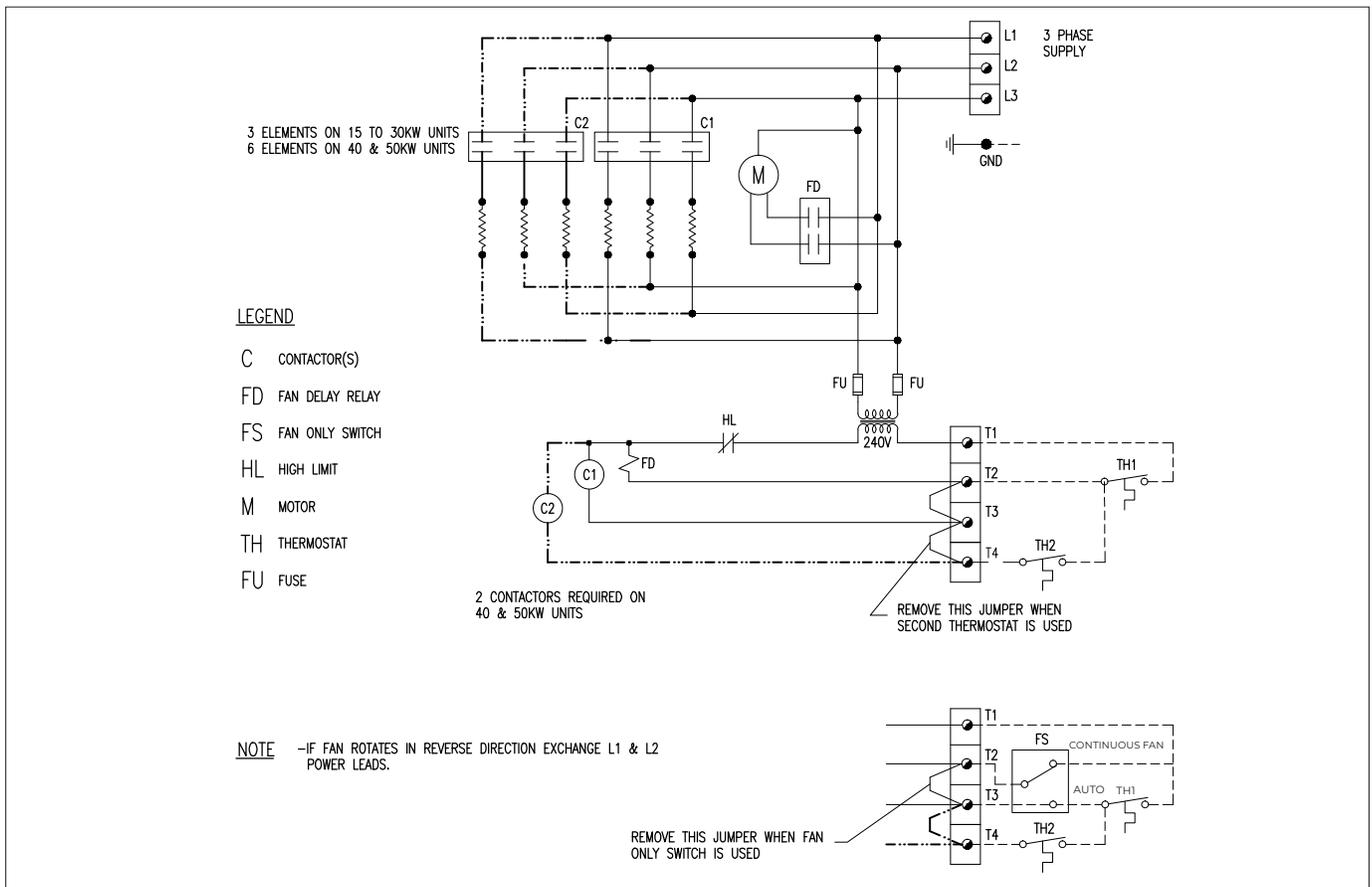
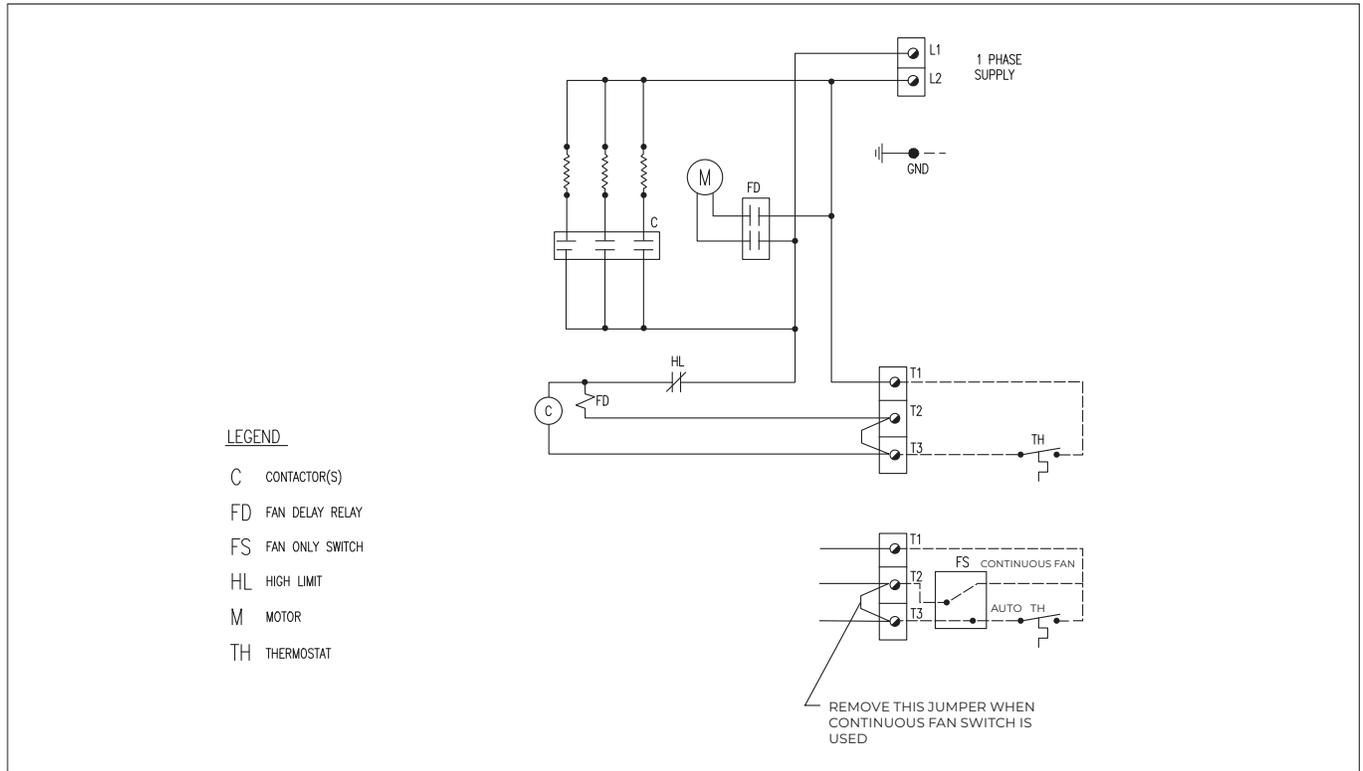

Figure 2 - 480V and 600V with Controls
Figure 7 – 240V Single Phase with Controls
If the wiring schematics in Figure 2 to Figure 7, page 6 to 9, do not match your configuration, check inside the control panel door of the unit for specific wiring schematic. Alternatively, all wiring schematics are available online at www.thermon.com.
1. To operate heater, ensure power supply is properly connected as specified in the wiring schematic (refer to Figure 2 to Figure 7, page 6 to 9).